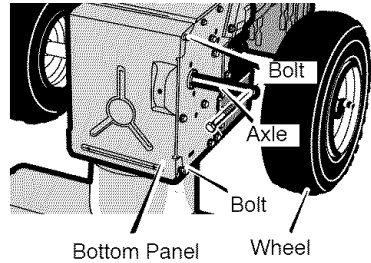

Figure 41
4. Remove the fasteners that secure the right **wheel**. Remove the **right wheel** from the **axle** (see Figure 41)
19. Install the **bottom panel** (see Figure 41).